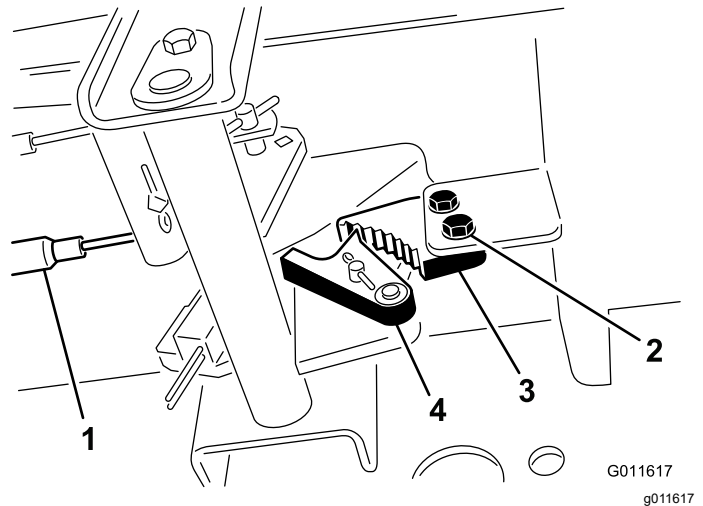

Figure 85
1. Loosen the 2 screws securing the parking-brake pawl to the frame (Figure 85).
2. Press the parking brake pedal forward until the brake detent completely engages on the brake pawl (Figure 85).